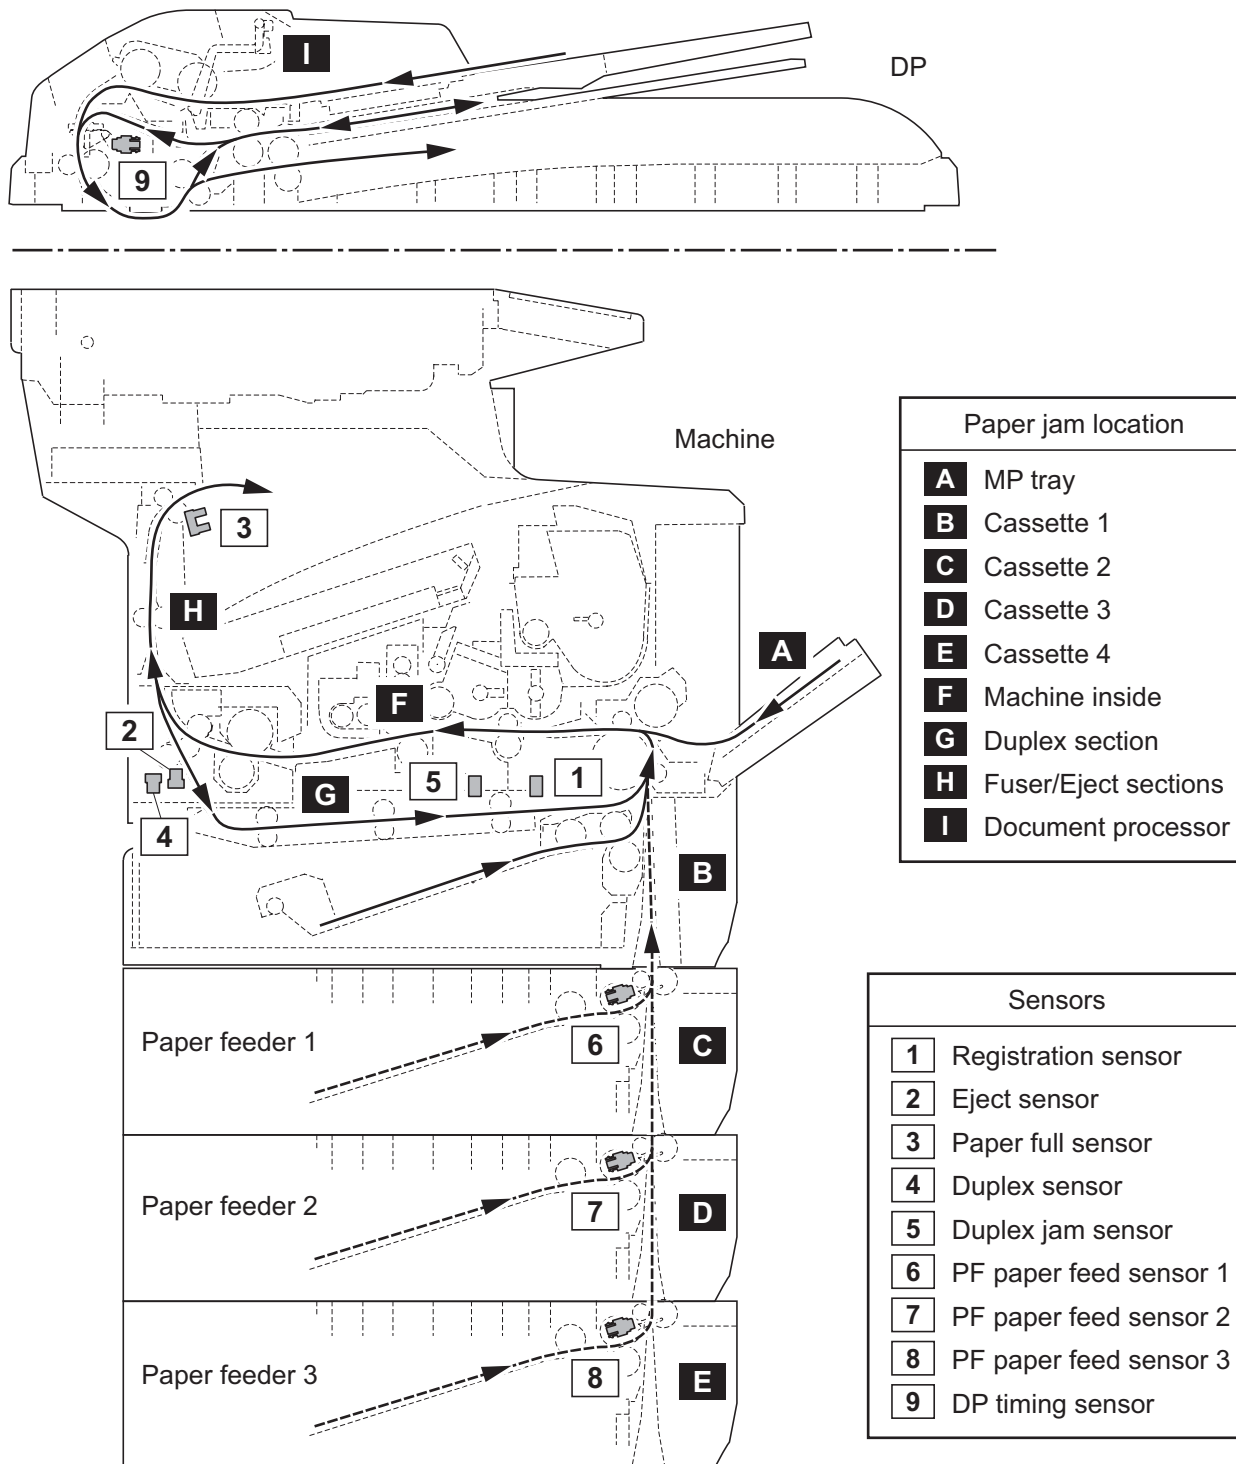

Figure 1-4-2
*: Refer to figure 1-4-2 for paper jam location (see page 1-4-2)